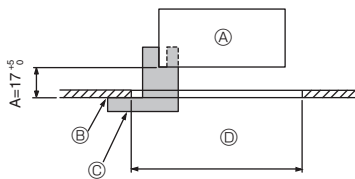
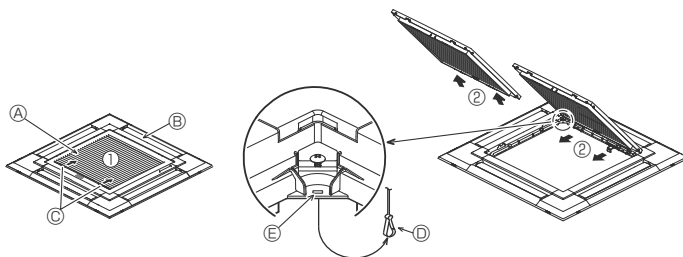
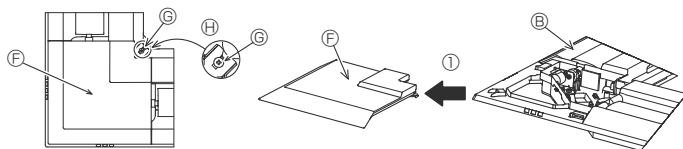

Fig. 6-2
Fig. 6-3
Fig. 6-4
①	Grille	1	950 × 950 (mm)
②	Installation gauge	1	(Divided into 4 parts)
③	Screw (4 × 16)	1	For PLP-6EAE, PLP-6EALME, PLP-6EALME
④	i-see Sensor corner panel	1	For PLP-6EAE, PLP-6EALME, PLP-6EALME
⑤	Wireless remote controller	1	For PLP-6EALM, PLP-6EALME
⑥	Remote controller holder	1	Included when equipped with the wireless remote controller.
⑦	LR6 AA batteries	2	Included when equipped with the wireless remote controller.
⑧	3.5 × 16 tapping screws	2	Included when equipped with the wireless remote controller.
6.2. Preparing to attach the grille (Fig. 6-2)
- With the gauge ② supplied with this kit, adjust and check the positioning of the main unit relative to the ceiling surface. If the main unit is not properly positioned relative to the ceiling surface, it may allow air leaks or cause condensation to collect.
- Ⓒ Installation gauge ② (inserted into the main unit)
6.2.1. Removing the intake grille (Fig. 6-3)
- Slide the levers in the direction indicated by the arrows ① to open the intake grille.
- With the intake grille in the "open" position, remove the hinge of the intake grille from the grille as indicated by the arrows ②.
6.2.2. Removing the corner panel (Fig. 6-4)
- Loose the 4 screws on the corner. Slide the corner panel in the direction of the arrow ① in the figure and remove the corner panel.
[Fig. 6-3] [Fig. 6-4]